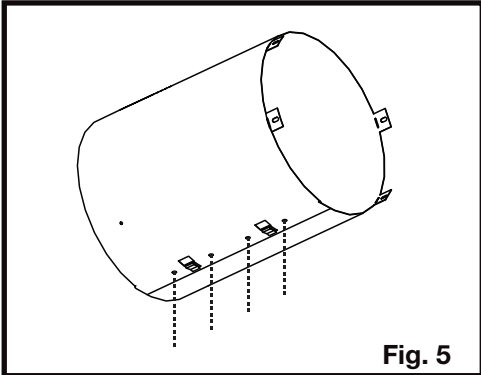

Fig. 5
- 5. Ensure both ends line up and secure ends with clip and fasteners (Fig. 5).